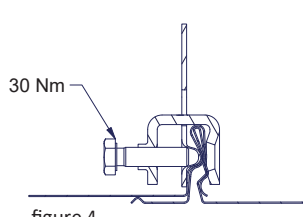

figure 4
- Tightening torque of the M8x30 fastening bolt is 30 N/m. Correct tightening torque will spread out the tightening clamp a bit, in order to create a tight long-lasting connection (figure 4).